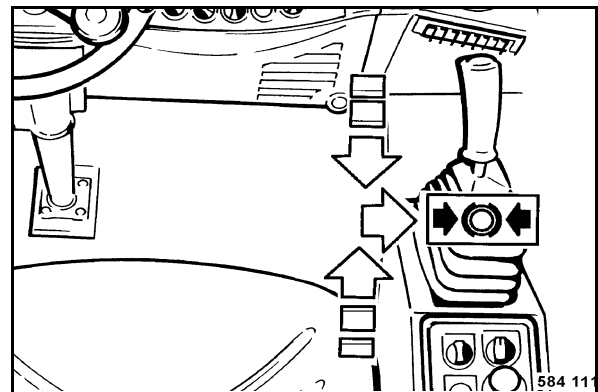

Fig. 46
- Check, whether the travel lever (Fig. 46) is engaged to the right in brake position.